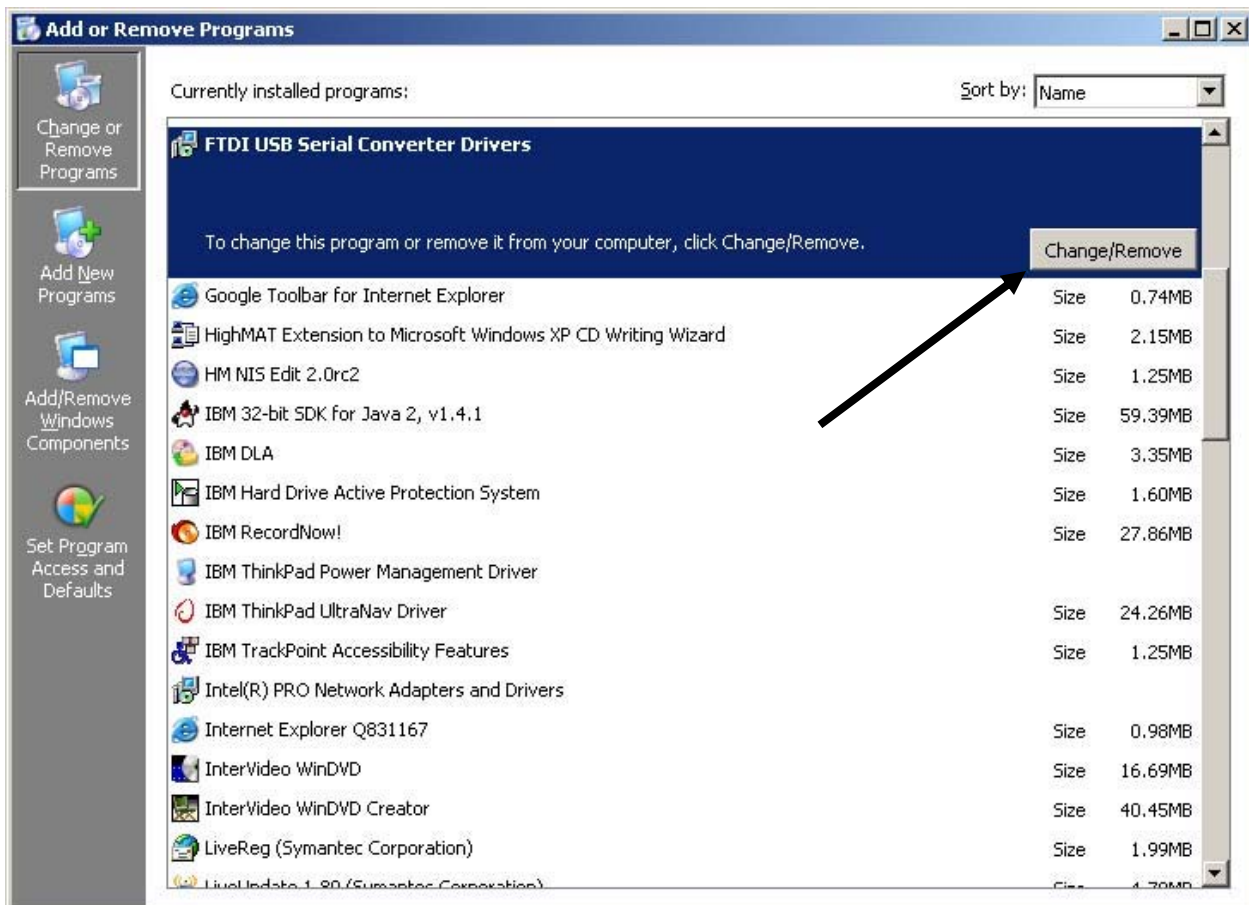

Figure 37
- Click **Change/Remove** in the **FTDI USB Serial Converter Drivers** section. (Figure 37).